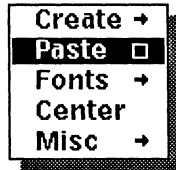

Figure 28-5. Text Location popup menu
- ✓ Use the **Paste** command on the Text Location popup menu (Figure 28-5) to paste everything you cut from *ScratchPad* into the text of your document.